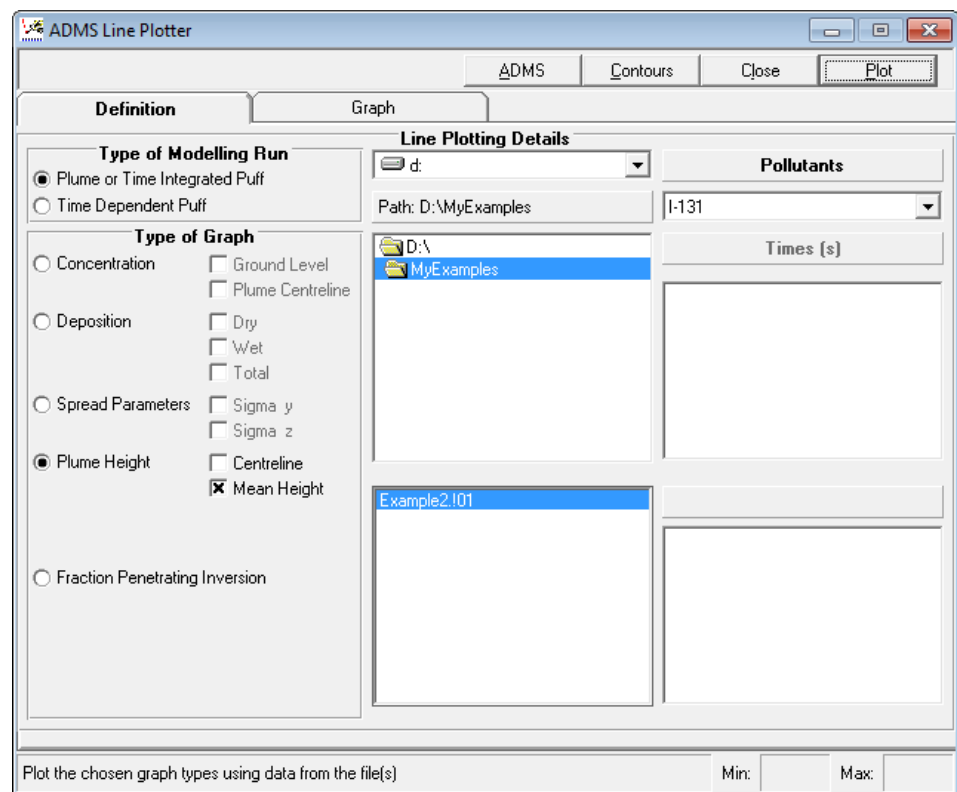

Figure 7.17 - Example 2: the **ADMS Line Plotter** facility.
Step 1 Go to **Results, X-Y Plot...** to launch the **ADMS Line Plotter** utility (**Figure 7.17**).